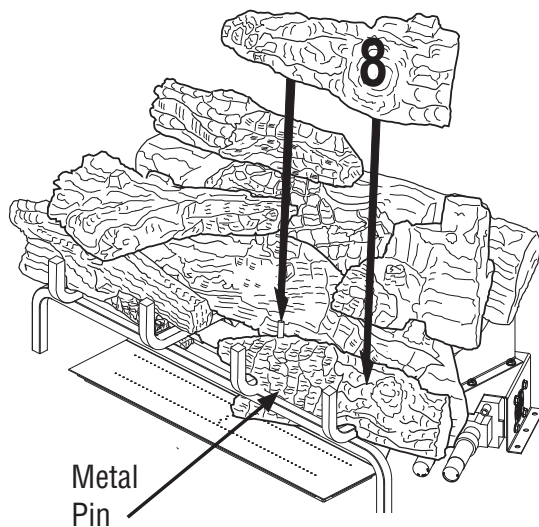

Figure 28 - Installing Log # 8
- Place the front right mid log (#8) on top of the front right log (#4) as shown in **Figure 28**. Match the round metal pin on the top of the front right log (#4) with the round hole on the bottom of the front right mid log (#8).